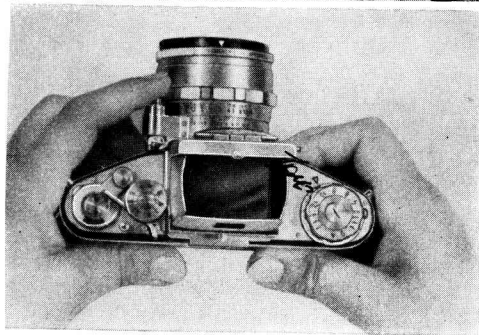

Fig. 11
To set, lift the knob (8) and turn it in the direction of the arrow till the selected exposure time is opposite the red mark on the immovable interior disk. Then let the knob (8) snap down. In the same way set the shutter for B and T. To release (Fig. 11) press knob (3), which also has threads for a cable release. The release knob may be protected against unintentional tripping by the swivelling shutter release lock (3a) (important for transporting as well as for storing the camera). To free the release knob for exposing the lock has to be swung up. If knob (8) is set on B, the shutter opens upon pressure on the release knob (3), remains open as long as the knob is pressed, and closes as soon as the pressure ceases. When knob (8) is set on T, the shutter opens after pressure on the release knob (3) and remains open till the release knob (3) is pressed again.